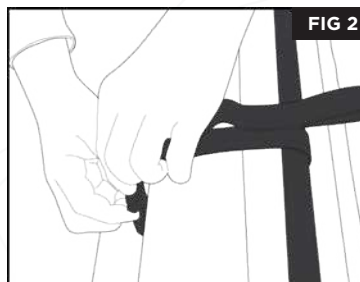

FIG 2
- Check that the hook and loop strip under the front of the seat is firmly attached. The seat mounts in the boat using two forward-opening clips and a center strap over the stern tube. The seat's side straps can be used to adjust the seatback recline or fold flat for transport (fig 2).